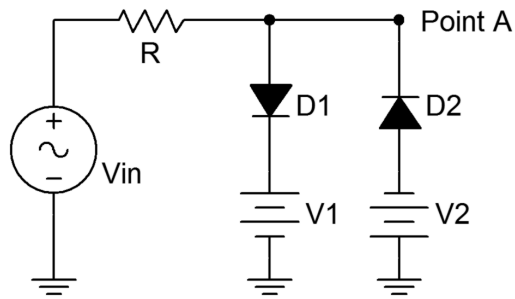

Figure 1
1. Consider the circuit of Figure 1 using $V_{in} = 5$ volts peak at 1 kHz, $R = 10$ k Ω , and both $V1$ and $V2$ set to 0 volts. For any positive signal over approximately 0.7 volts, $D1$ will turn on and limit the output voltage at Point A to 0.7 volts. A similar situation occurs with $D2$ and negative signals. A sine wave input over several volts will be clipped at ± 0.7 volts resulting in a squared off wave.
2. Build the circuit of Figure 1 using $R = 10$ k Ω , and both $V1$ and $V2$ set to 0 volts. Set V_{in} to a 5 volt peak sine at 1 kHz. Place one oscilloscope probe at the input and the second at Point A. Make sure the scope inputs are DC coupled. Record the positive and negative peak values of the resulting output waveform in Table 1. Also save an image of the scope showing both the input and output waveforms.